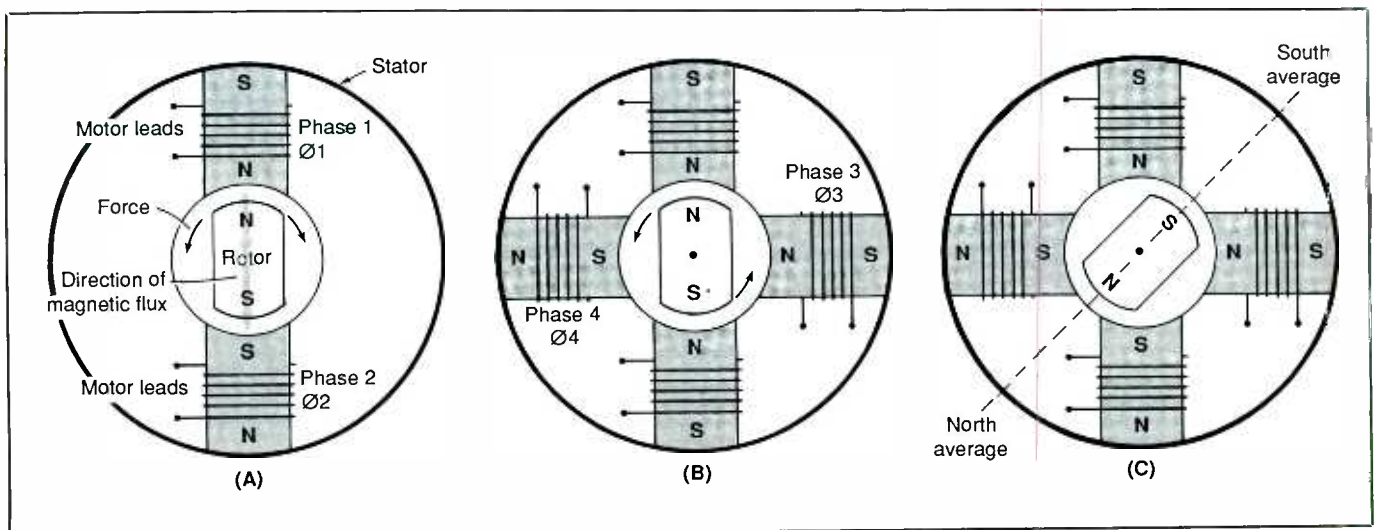

Fig. 1. Examples of (A) a two-phase stepping motor; (B) simple four-phase motor with full-step movement; and (C) four-phase motor with half-step movement.
Shown in Fig. 1(A) is an example of a simple two-pole stepping motor. If Phases 1 and 2 in the stator are energized as shown, the north, or N, rotor will be repelled from Phase 1 and attracted to Phase 2. Likewise, the
With only two working poles, as in the Fig. 1(A) example, it's impossible to control the direction of rotor rotation. In this case, the probability of rotation in either the clockwise (CW) or counterclockwise (CCW) direction is 50/50. However, the rotor will align itself firmly with the phases to which it is attracted. If the phases were reversed, the rotor would realign itself in the other direction.
By adding two additional poles to the motor, as in Fig. 1(B), it now becomes possible to control the direction and degree of stepping action. When the motor phases are energized as shown, the N rotor will step 90 degrees CCW toward Phase 4 and remain there.
If the phases of Fig. 1(B) were later changed so that Phases 2 and 4 were reversed, the rotor would step again so that its N pole would face Phase 2.
Rotor alignment when two adjacent phases in a motor are energized alike is illustrated in Fig. 1(C). Here, the rotor will turn *between* the two phases to find an "average" phase position. If combinations of motor phases are powered, the rotor can "step" through a known series of movements. It is this kind of control that makes a stepping motor so useful. Keep in mind that it is the *combination* of phase polarities that sets the final position of the rotor, while the *sequence* of those combinations controls the direction of rotation.
Tables 1 and 2 detail the phase combinations used to produce one complete 360-degree rotation for the simple four-phase motor illustrated in Fig. 1(C). Reversing the sequence will reverse the direction of rotation.
Table 1. Full-Step Movement for Motor Depicted in Fig. 1(C)
As an example of the foregoing, in Fig. 1(C) a simple rotor and four simple stator phases are used (“simple” in this context means that there are no teeth in the motor). If only one phase is energized at any one time